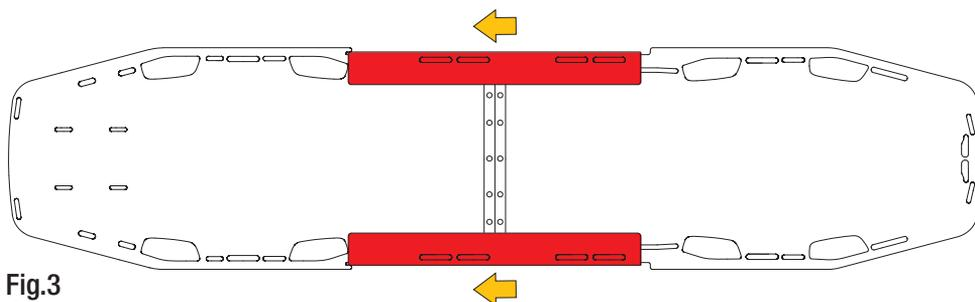

Fig.3
b) Slide the stiffening spars until they lock into the lateral grooves of the spinal board (fig. 3),